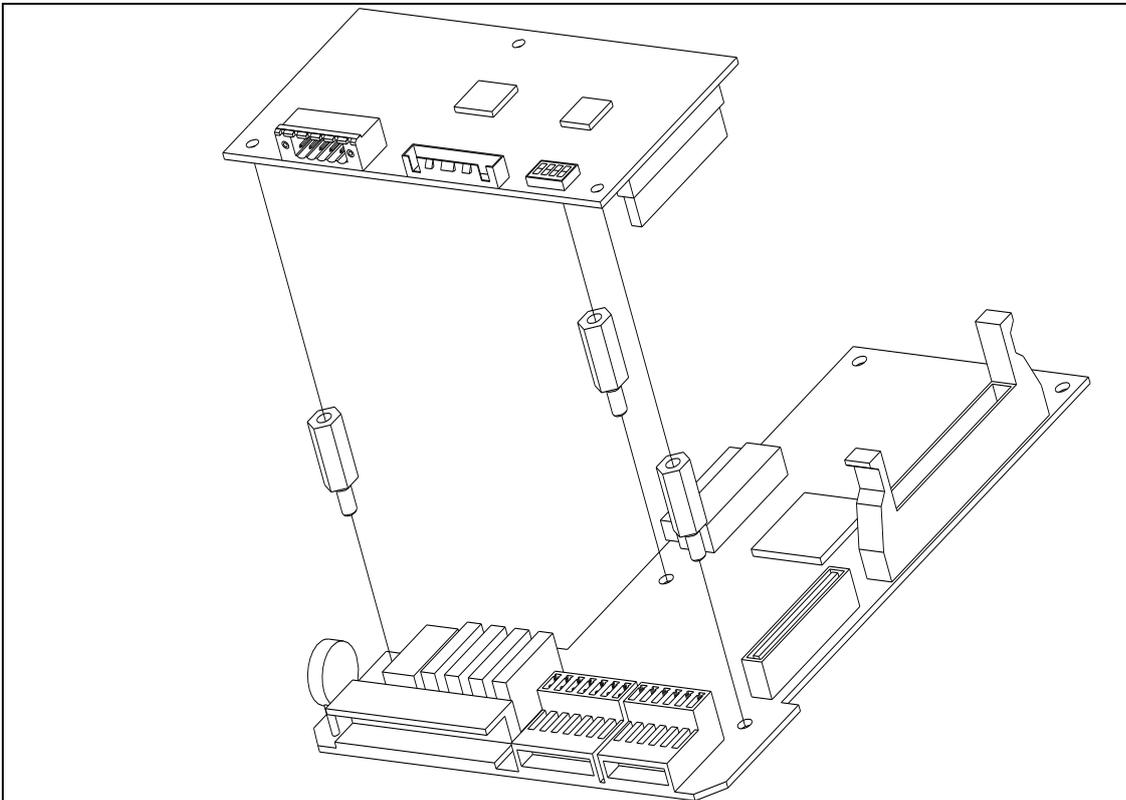

Figure 3. SV-iP5A **RS485 Option Board** Installation
- ① Connect **RS485** Option Board connector to the option connector inside the inverter control board. (See Figure 3, 4). Make sure that the support is well connected. if the position of the support is not right, it means that the option card is not connected correctly.
- ② Power up the inverter after verifying the option card is installed properly.
- ③ When powering up the inverter, CPU LED is blinking per second after all LEDs blink one after another.
- ④ If "CPU LED" is not blinking, power down the inverter swiftly and check for the proper installation of the option card.